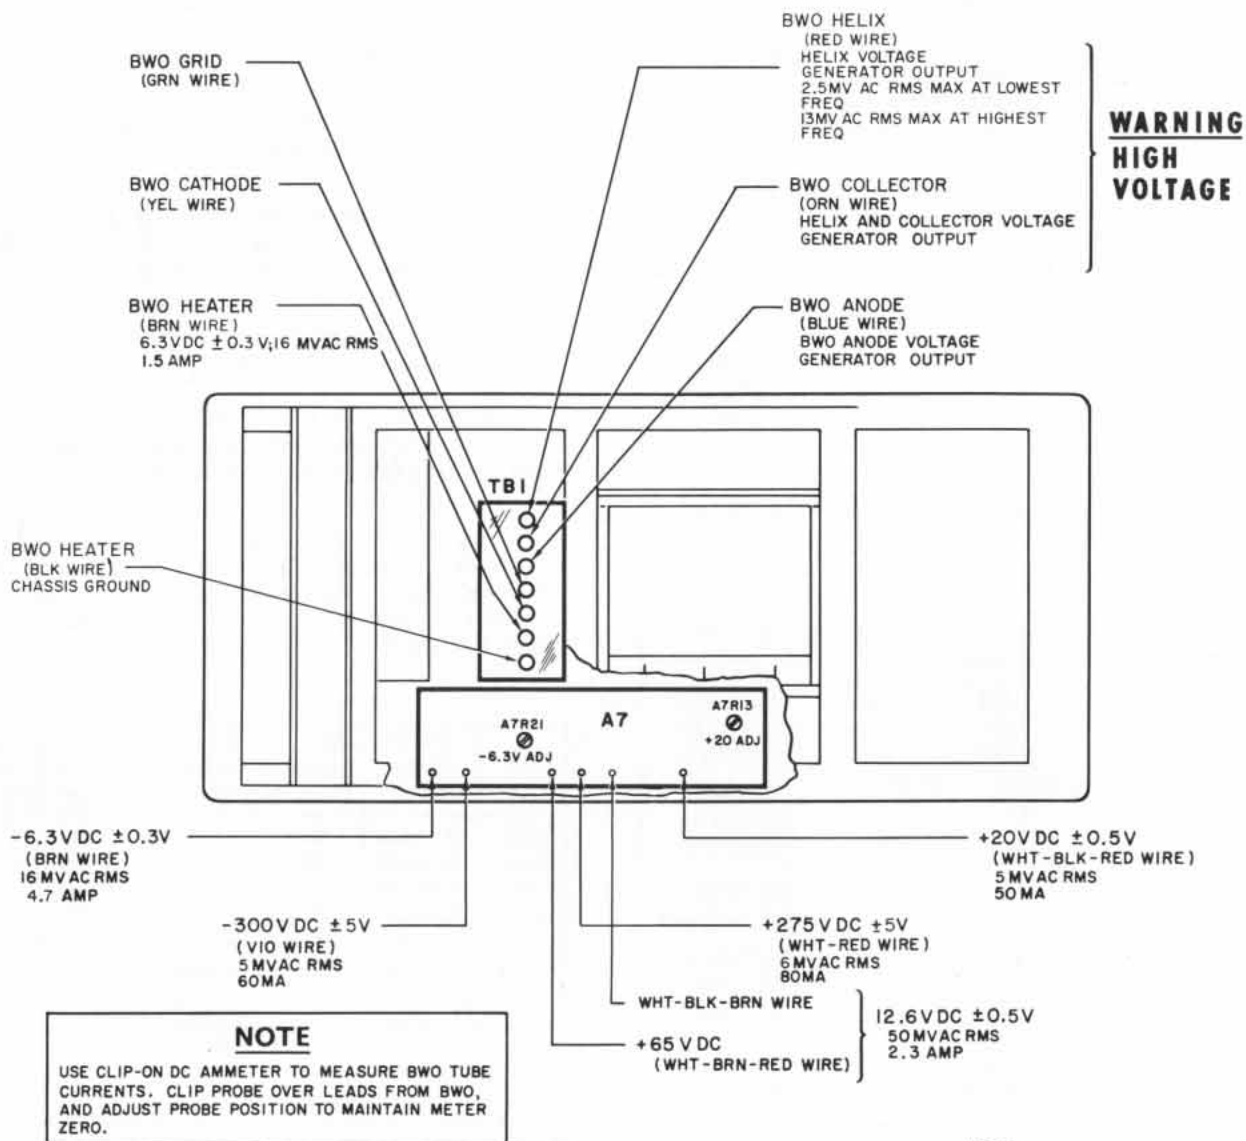
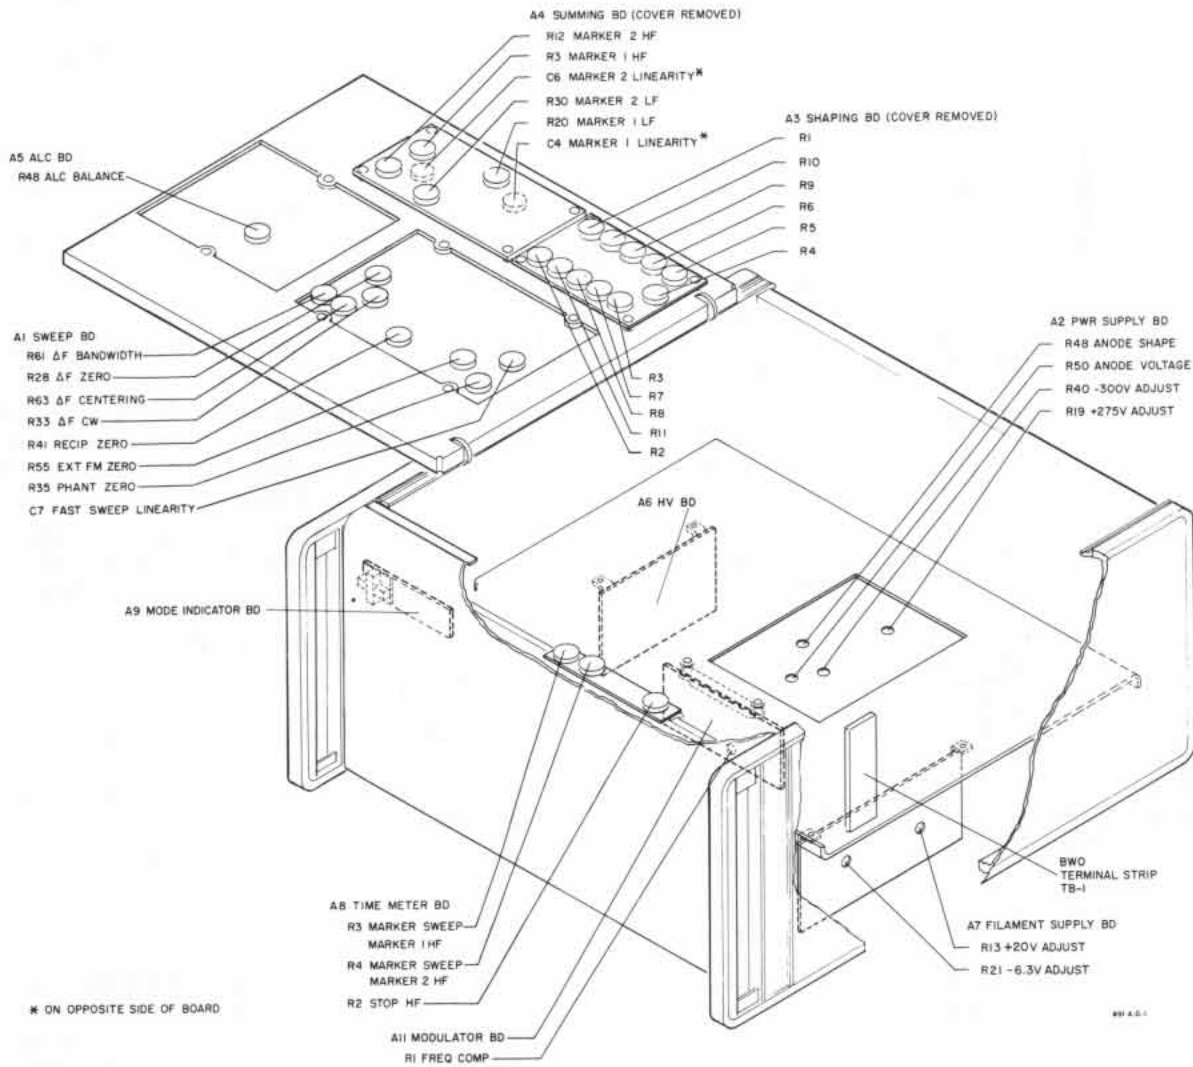

Figure 5-6. Right Side View Showing Convenient Points for Measuring BWO Tube and Principal Operating Voltages
Figure 5-7. Locations of Internal Adjustments and Etched Circuits
5-43. There are four adjustable dc operating voltages: -300, +275, +20, and -6.3 volts. Adjust these voltages only if proven by accurate measurement to be significantly outside the tolerances specified on the schematic diagrams and Figure 5-6, and only if the voltage error is not caused either by excessive current being drawn through the regulator or by inadequate voltage being supplied to the regulator from the power supply rectifiers.
5-44. Because the -300 and +275 volt supplies are interdependent, and because the +275 volt supply is used as a reference in the Helix Voltage Generator, any adjustment to either of these regulators will change the frequency dial calibration. Also because of the interdependence of these power supplies, the -300 volt regulator must be set first, the +275 volt regulator second, and the +20 and -6.3 volt regulators last. After adjusting any of these regulators, check the output voltage of each other regulator to be sure it is still within specified tolerances. Do not attempt adjustment of the -300 and +275 volt regulators with a voltmeter having more than $\pm 0.3\%$ error. See Figure 5-7 for locations of the power supply adjustments and Figure 5-6 for convenient measurement points.
d. Connect a dc voltmeter (Table 5-2) to BWO anode terminal and clip-on dc ammeter (Table 5-2) to BWO helix lead (see Figure 5-6).
- a. Turn on Sweep Oscillator and allow two-minute warmup. Remove cabinet top cover for access to etched circuit A1 (see Figure 5-7).
c. Remove cabinet top cover for access to etched circuit A3 (Figure 5-7).
c. Remove cabinet top cover for access to etched circuit A8 (see Figure 5-7).
c. Remove cabinet top cover for access to etched circuit A1 (see Figure 5-7).
c. Remove cabinet top cover for access to etched circuit A4 (see Figure 5-7).